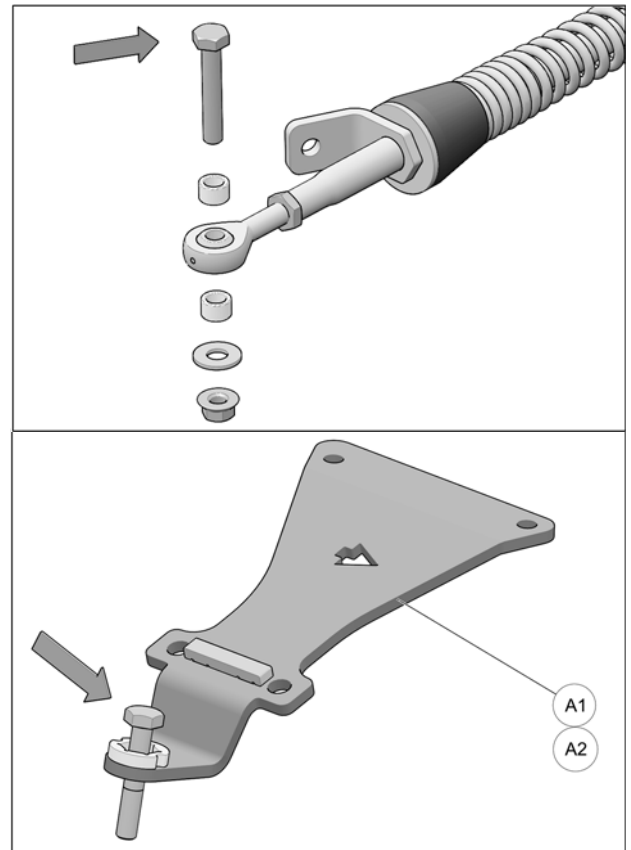

Fig. 15
9. Remove bolt, washer and bushings from front stabilizing rod end and insert bolt in front anchor bracket (A1-A2) as shown in Fig. 15